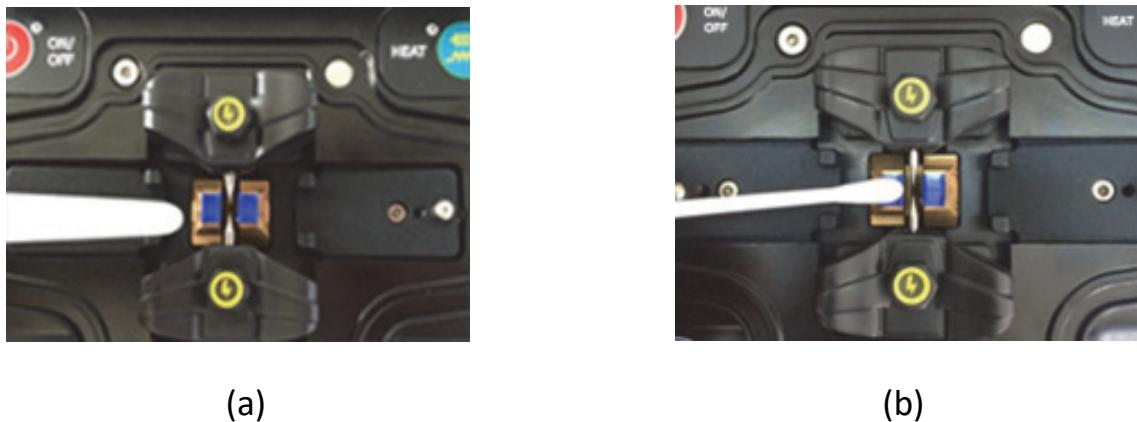

Figure 3-4 Clean the V-Groove
- (1) Open the windproof cover of Fiber Fusion Splicer.
- (2) Use the specific brush to clean the impurities in V groove bottom as shown in figure 3-4 (a).
- (3) Please use the fine cotton swab dipped in alcohol to clean the bottom of the V-groove, as shown in Figure 3-4 (b).